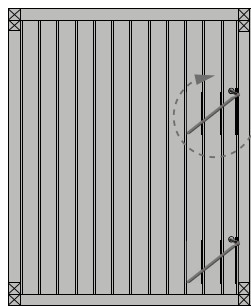

Figure 5.
- 8) Use an Allen key to join the left wall and back wall together. (see figure 5).